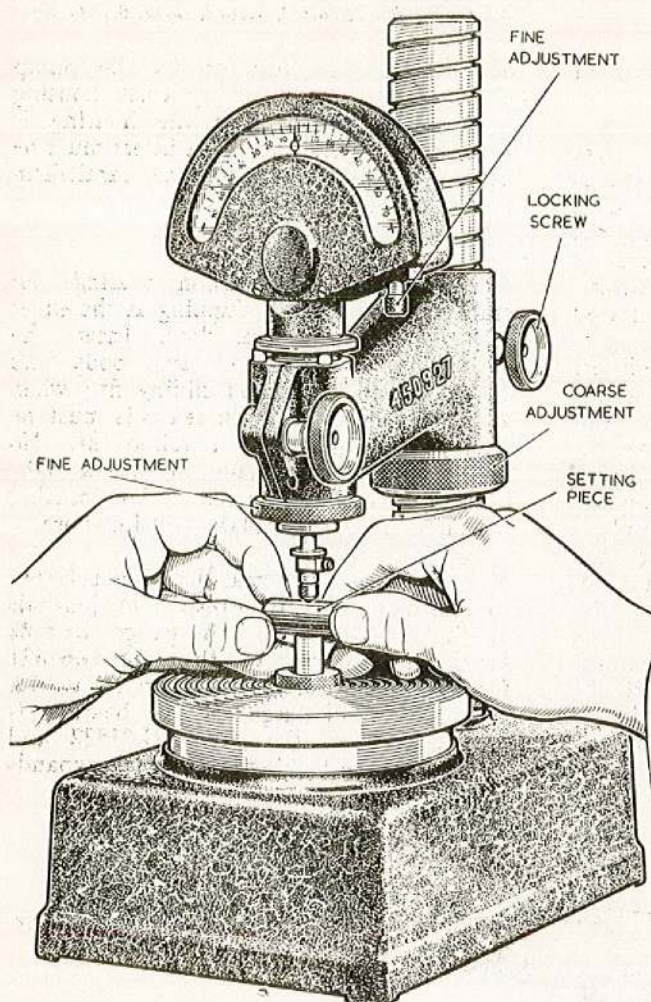

Fig. 15. Checking the rotor pistons
62. Test the pistons for ease of reciprocation in the bores and also examine them for discolouration on the skirts. Check the pistons for wear using a dial comparator and the setting pieces as shown in *fig. 15*. The diameter of the setting pieces is identical to that of new pistons; five sizes being available for the five different sizes of piston as indicated in the illustration. The comparator is adjusted to zero reading on the setting piece then each piston is passed in turn, under the comparator. The reading obtained indicates the amount of wear on the piston.